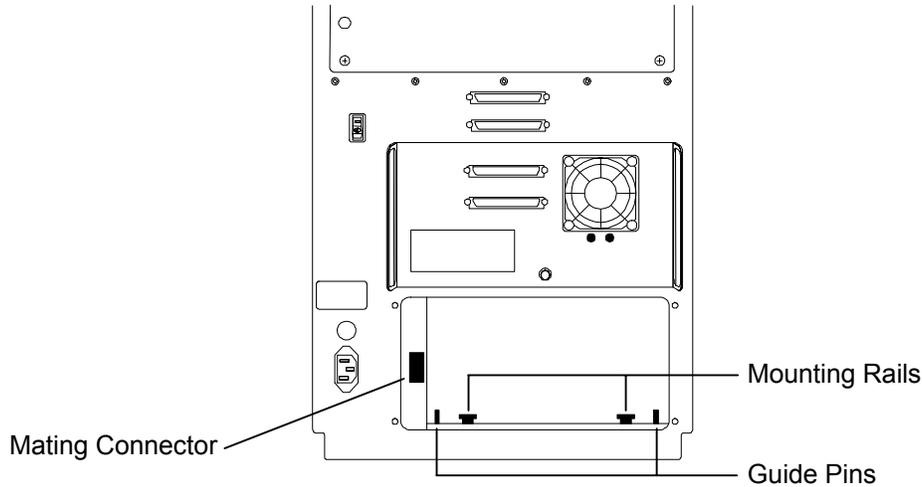

Figure 5-19 Model 6220 - Rear View
7. Hold the Tape Drive Assembly right side up and place it on the Mounting Rails between the Guide Pins. Turn the Thumbscrew Latch ½-turn counterclockwise and hold it in that position, then gently slide the Tape Drive Assembly all of the way into the TLS (Figure 5-19).